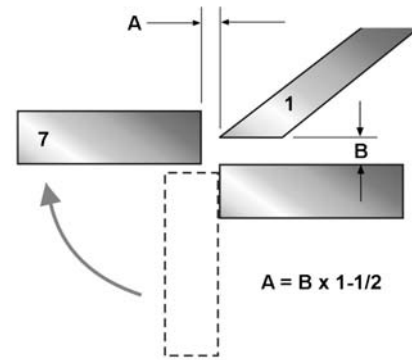

Figure 3
The bending leaf blade (7) must be adjusted for proper clearance, or "setback" (A, Figure 3) based on material thickness (B, Figure 3). Generally, setback for material within four gauges of capacity should be twice the thickness of material. For lighter gauges, use 1-1/2 times the material thickness. Consult a machinery handbook for bend allowances.